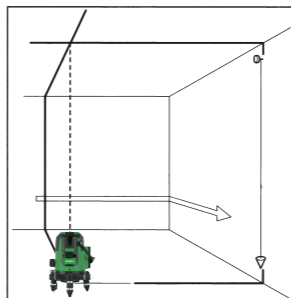

Fig. 8
1) Hang a plumb-bob (See the figure 8) from 3 m height of the wall (the height of ceiling is approx. 3 m).